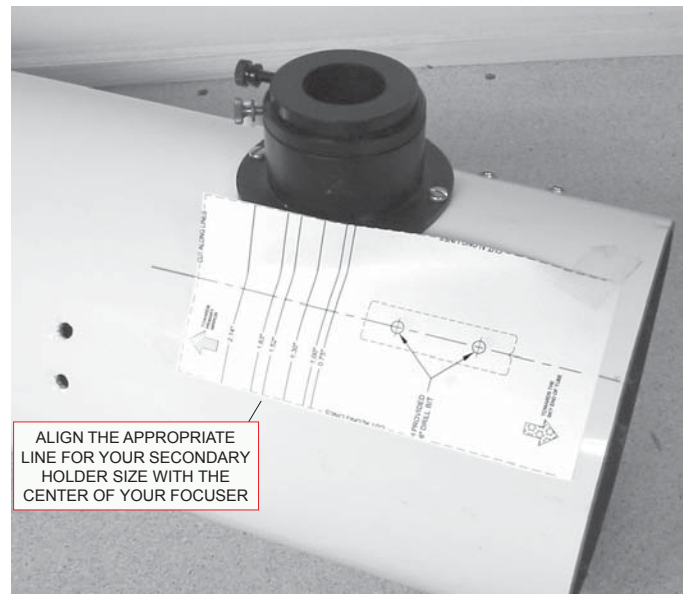

Figure 4
Step 3 **Apply the drilling template.** Tape the paper drill template to the tube as shown in **Figure 4**. Align the template's long axis with one of the lines you just drew on the tube. By sight, line up the centerline that corresponds to your secondary mirror holder's size with the center of your focuser drawtube.